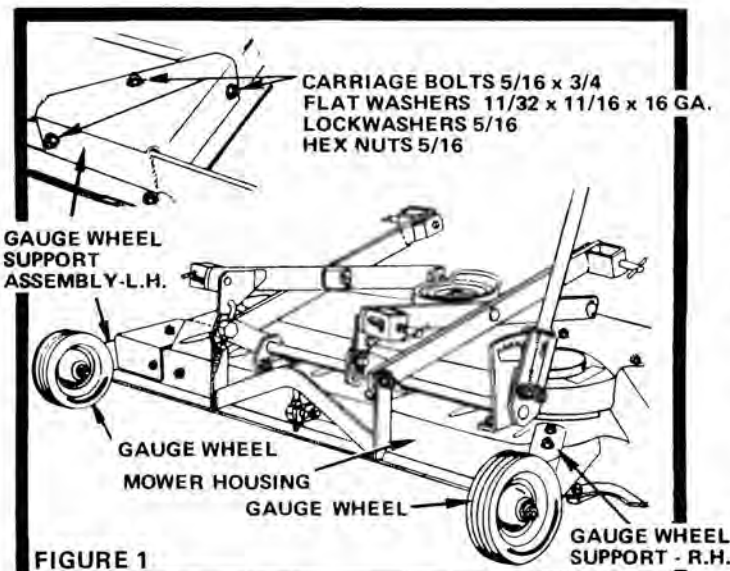

FIGURE 1
2. Assemble Gauge Wheel Support Assembly - L.H. to Mower Housing (Fig. 1) with three 5/16 x 3/4 Carriage Bolts, 11/32 x 11/16 x 16 Ga. Flat Washers, 5/16 Lockwashers and 5/16 Hex Nuts. Heads of Bolts to inside; Flat Washers between Gauge Wheel Support and Lockwashers. Tighten nuts securely.